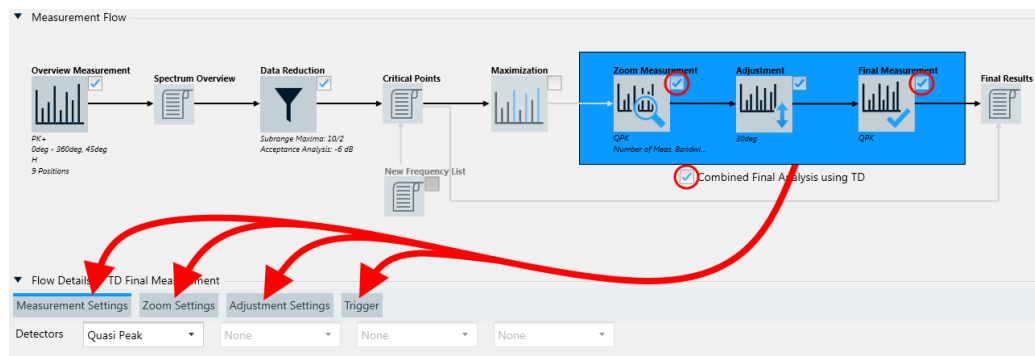

Figure 4-63: The icon for Combined Final Analysis using TD gives access to various settings in the Flow Details
- Both the Zoom Measurement and the Final Measurement are enabled, as indicated by the red circles in Figure 4-63